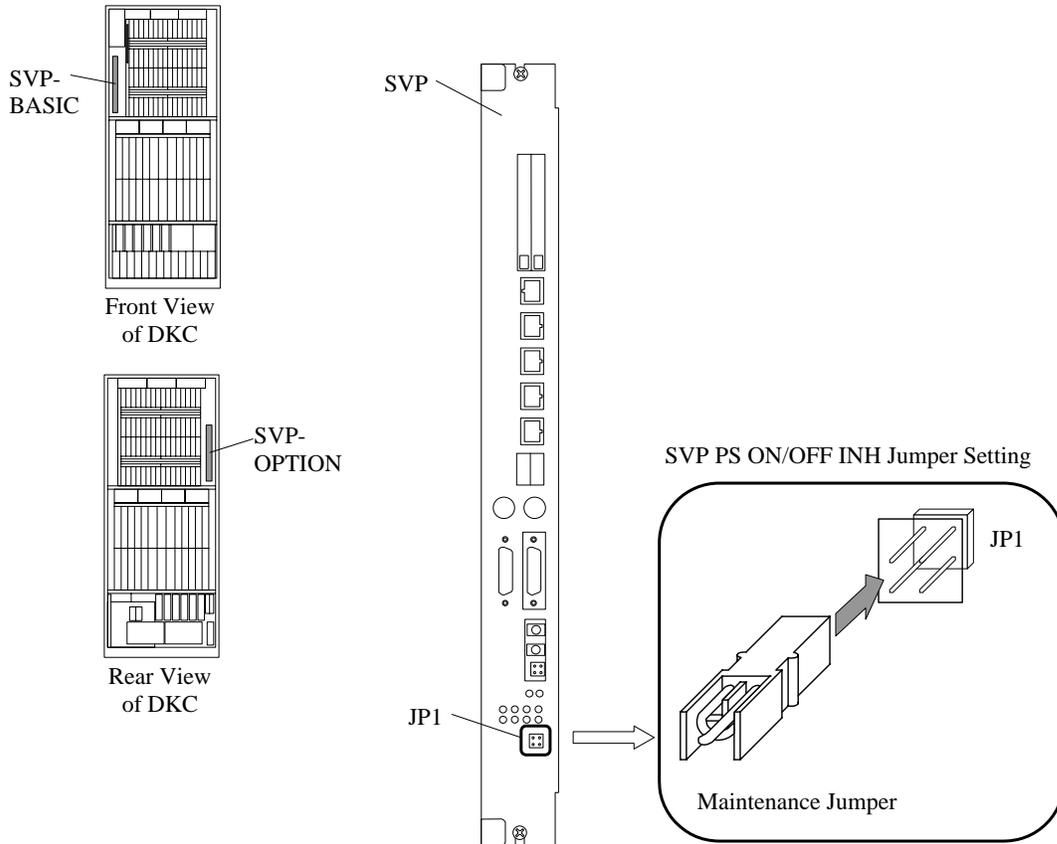

Fig. T7.2-2 Insertion of Maintenance Jumper
- d. Remove the maintenance jumper of the JP1 on the SVP-BASIC. When the SVP-OPTION is installed, remove the maintenance jumper of the JP1 on the SVP-OPTION. Refer to Fig. T7.2-2.